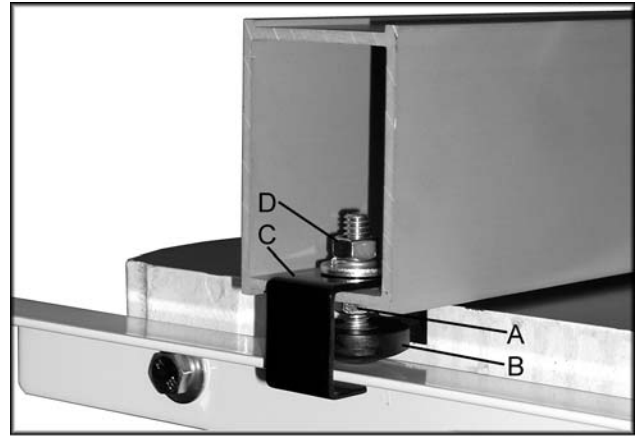

Fig. 5
6. Thread a hex nut (A, Fig. 5) onto the sliding pad (B, Fig. 5) and insert through the fence and rear hook (C, Fig. 5). Secure in place using a hex nut, lock washer and flat washer (D, Fig. 5).
7. Place fence assembly onto the guide rail. The rear hook should engage the rear rail, Figure 5.